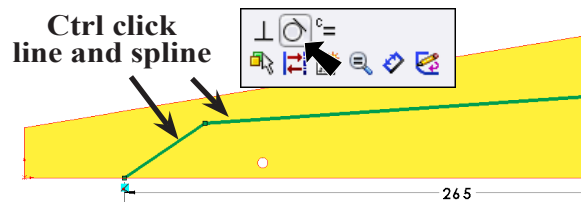

Fig. 10
Step 10. **Ctrl click line and spline** to select both, **Fig. 10**. To Ctrl click, click line, then hold down the Ctrl key and click the spline. **Release Ctrl key** and click **Make Tangent**  on the Content menu, **Fig. 10**.